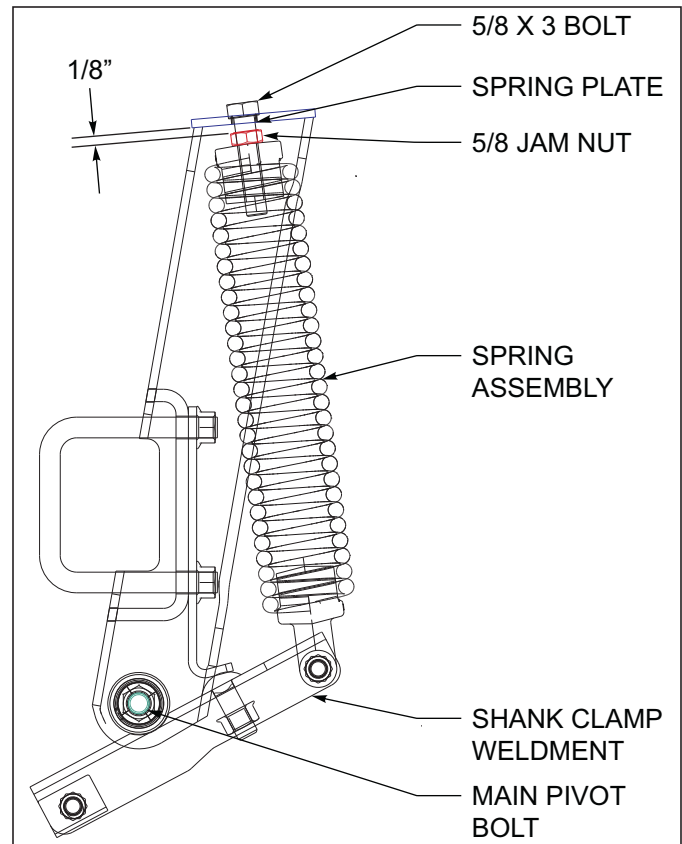
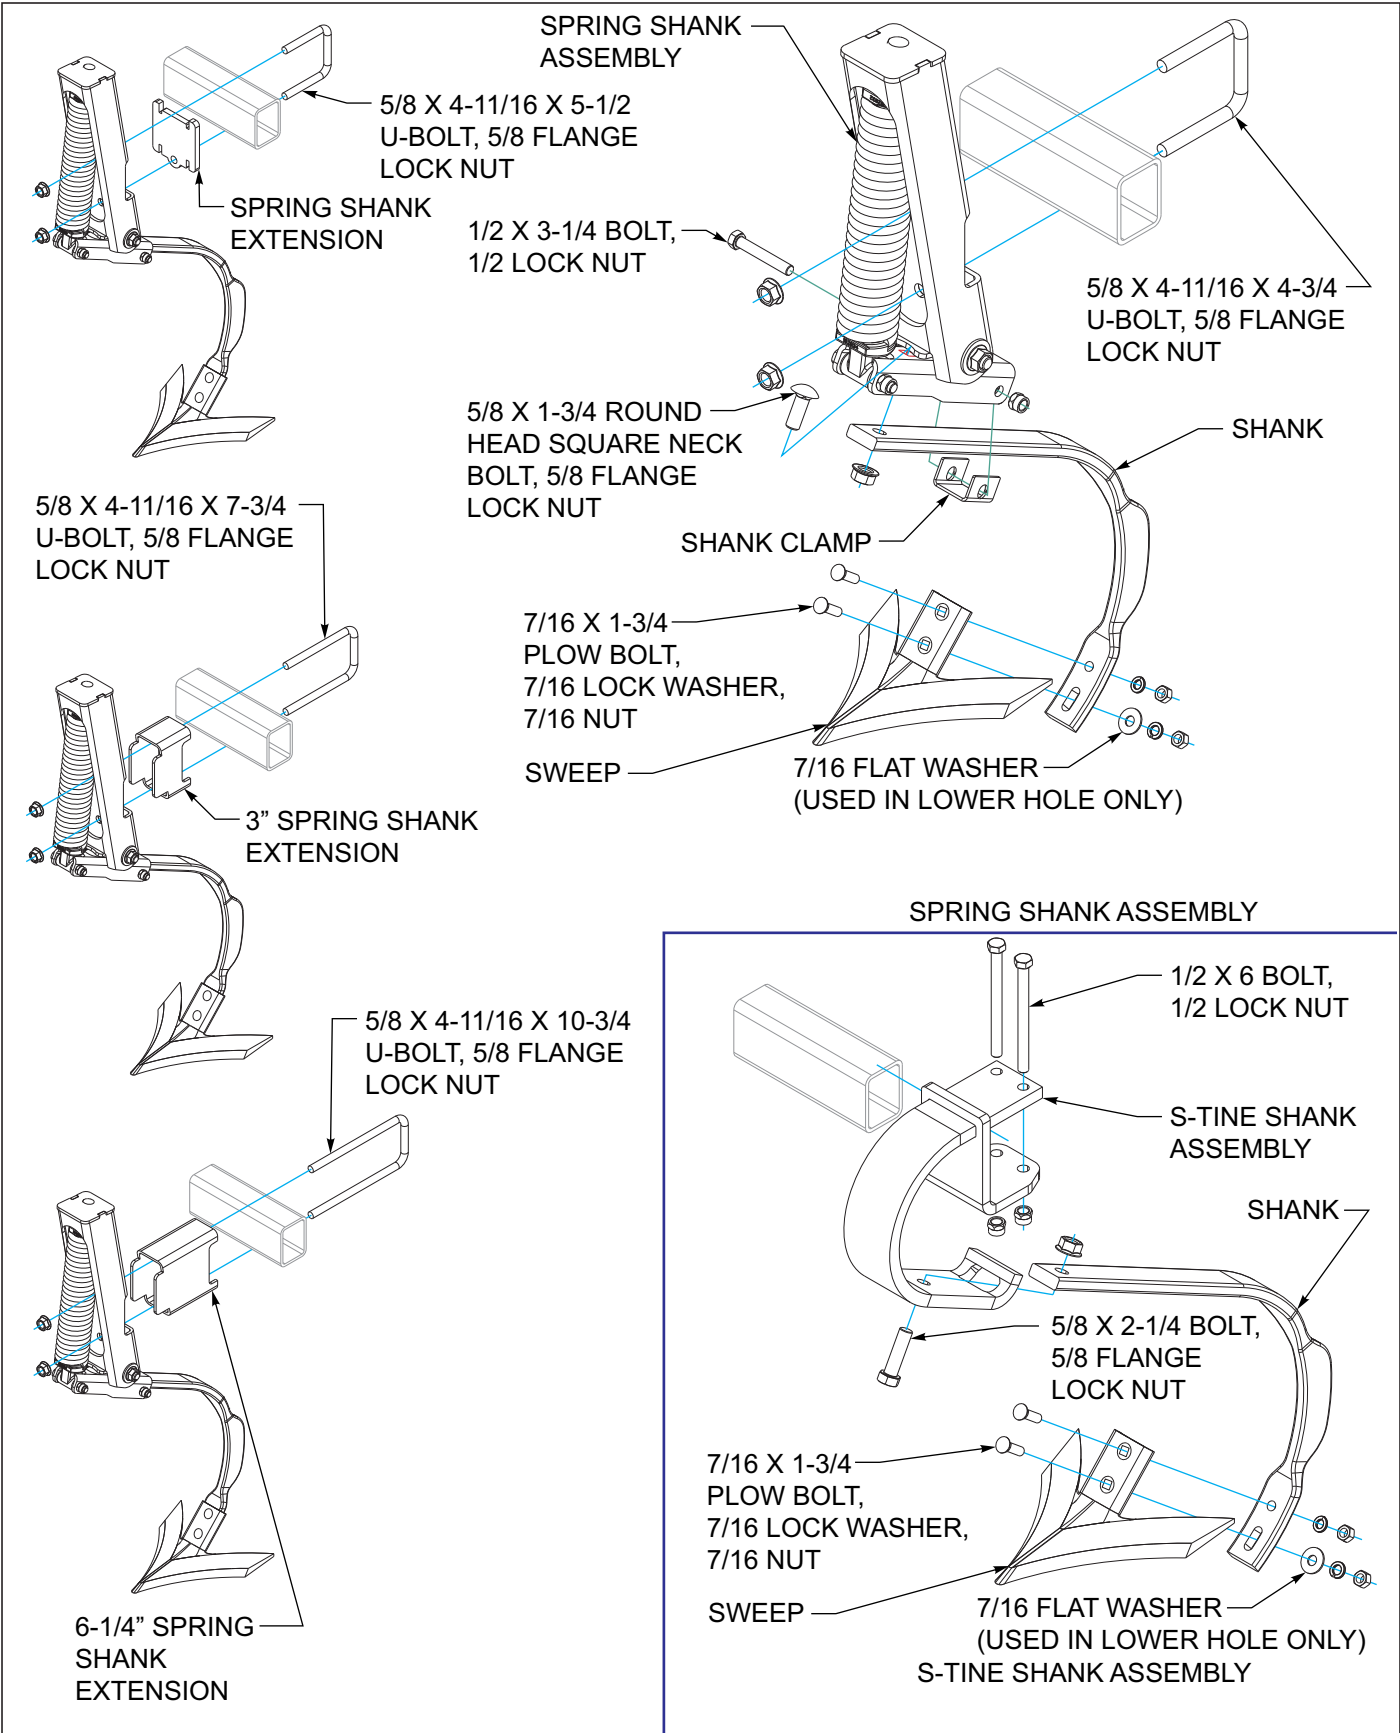

Figure 3-16: Spring Adjustment
Figure 3-17: Shank Installation
1. Install shanks in clamps See Figure 3-17.
Spring shank assemblies with frame extensions (front bar) are mounted reversed for narrower shipment. These shanks must be removed and turned forward for proper operation. See Figure 2-2 through 2-6 for proper placement, and See Figure 3-17 for proper u-bolt and shank extension. After shanks have been reversed, verify that springs have been set to the proper tension. Adjust the spring until there is 1/8" gap between the top of the mount and locking jam nut on top of the spring See Figure 3-16 Lock the jam nut against the top of the spring, not the top of the mount.